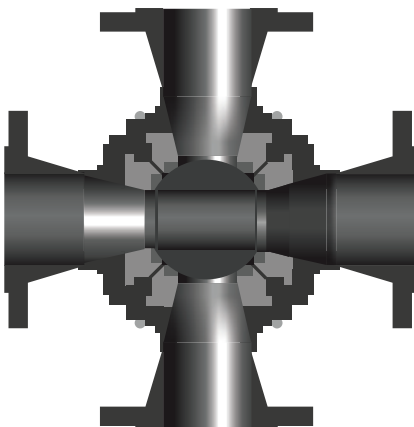

FIGURE 1
- 5.1.1. Carefully unpack the valve and check valve nameplate for identification of materials (see **Figure 1**).